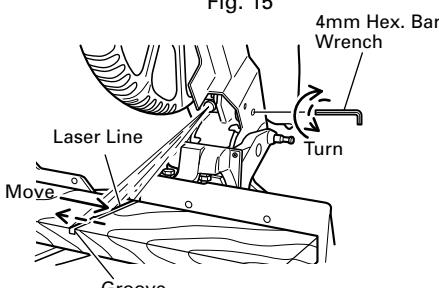

Fig. 16
(1) Light up the laser marker and make a groove of about 3/16" (5mm) deep on the workpiece that is about 1-1/2" (38mm) in height and 3-1/2"(89mm) in width. Hold the grooved workpiece by vise as it is and do not move it.
(2) Then insert a 4mm hex. bar wrench in the 12 diameter hole on the side of the gear case, turn the hex. socket set screw to move the laser line. (If you turn the Hex. socket screw clockwise, the laser line will shift to the right and if you turn it counterclockwise, the laser line will shift to the left.) When you work with the ink line aligned with the left side of the saw blade, align the laser line with the left end of the groove. (Fig. 16) When you align it with the right side of the saw blade, align the laser line with the right side of the groove.
(3) After adjusting the position of the laser line, draw a right-angle ink line on the workpiece and align the ink line with the laser line. When aligning the ink line, slide the workpiece little by little and secure it by vise at a position where the laser line overlaps with the ink line. Work on the grooving again and check the position of the laser line. If you wish to change the laser line's position, make adjustments again following the steps from (1) to (3).